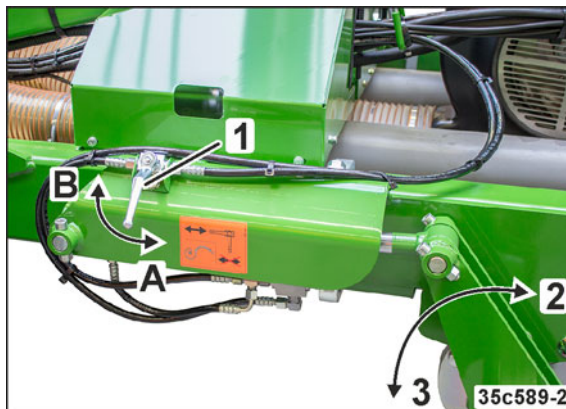

Fig. 238
1. Swivel the tractor wheel mark eradicators into working position (Fig. 238/3):
1. Swivel the tractor wheel mark eradicators into transport position (Fig. 238/2):